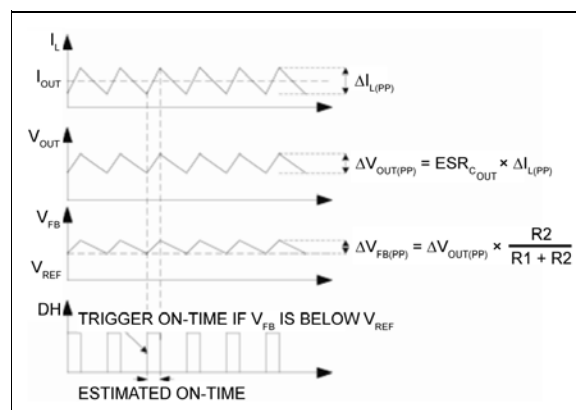

FIGURE 4-1: MIC2125/6 Control Loop Timing
The MIC2125/6 Functional Block Diagram appears on page two. The output voltage is sensed by the MIC2125/6 feedback pin (FB), and is compared to a 0.6V reference voltage (V_{REF}) at the low gain transconductance error amplifier (g_m). Figure 4-1 shows the MIC2125/6 control loop timing during steady-state operation. When the feedback voltage decreases and the amplifier output is below 0.6V, the comparator triggers and generates an ON-time period. The ON-time period is predetermined by the fixed t_{ON} estimator circuitry value from Equation 4-1:
The MIC2125/6 high-side drive circuit is designed to switch an N-Channel MOSFET. Figure 4-1 shows a bootstrap circuit, consisting of a PMOS switch and C_{BST} . This circuit supplies energy to the high-side drive circuit. Capacitor C_{BST} is charged while the low-side MOSFET is on and the voltage on the SW pin is approximately 0V. When the high-side MOSFET driver is turned on, energy from C_{BST} is used to turn the MOSFET on. If the bias current of the high-side driver is less than 10 mA, a 0.1 μ F capacitor is sufficient to hold the gate voltage within minimal droop, (i.e., $\Delta_{BST} = 10 \text{ mA} \times 3.33 \mu\text{s} / 0.1 \mu\text{F} = 333 \text{ mV}$). A small resistor, R_G in series with C_{BST} , can be used to slow down the turn-on time of the high-side N-channel MOSFET.